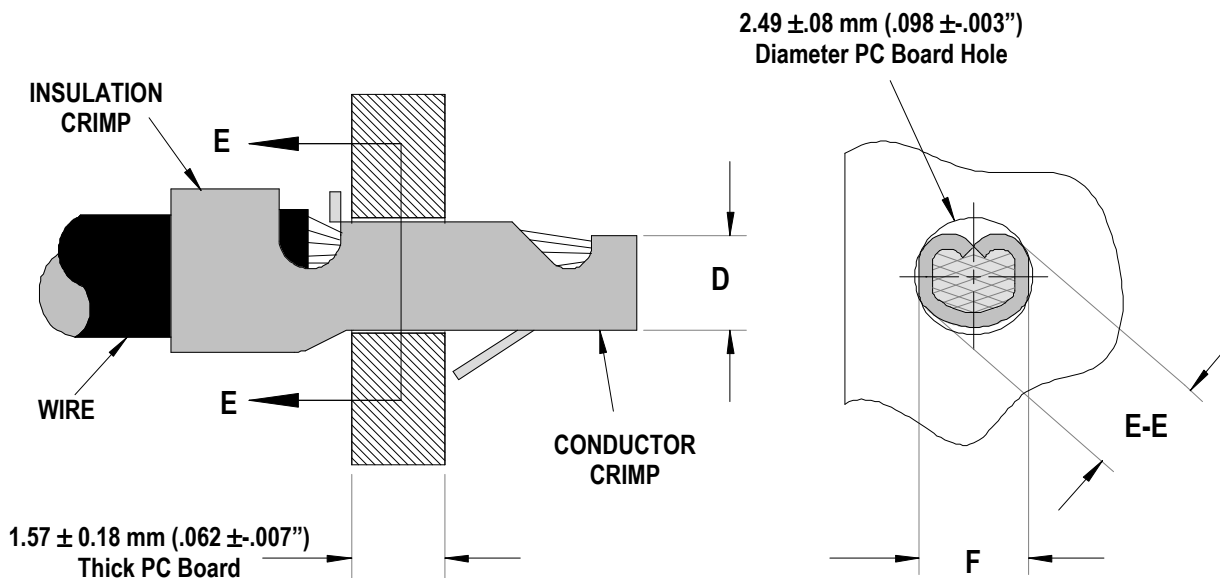

Figure 1
After crimping, the conductor profiles should measure the following (See Figure 1).
| Terminal Series No. | Wire Size | | Dimensions (Figure 1) | | | | | | Pull Force Minimum | |
1. The Conductor crimp (D dimension on Figure 1) should be set at the maximum height to contain all wire strands, meet minimum pull, and fit into the PCB Hole. The insulation and barrel crimps are adjustable, by the cams (rings) on top of the Mini-Mac ram. The conductor crimp height is not adjustable. Shimming may be required of the conductor punch to optimize this for different wire types.